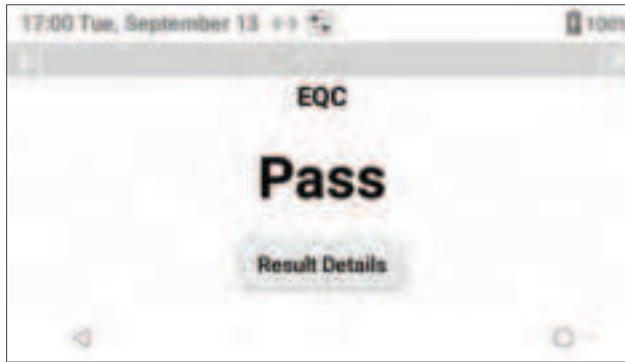

Figure 63: EQC Test Result – Pass
- **Pass** – If the test passes (Figure 63), go to the next step.